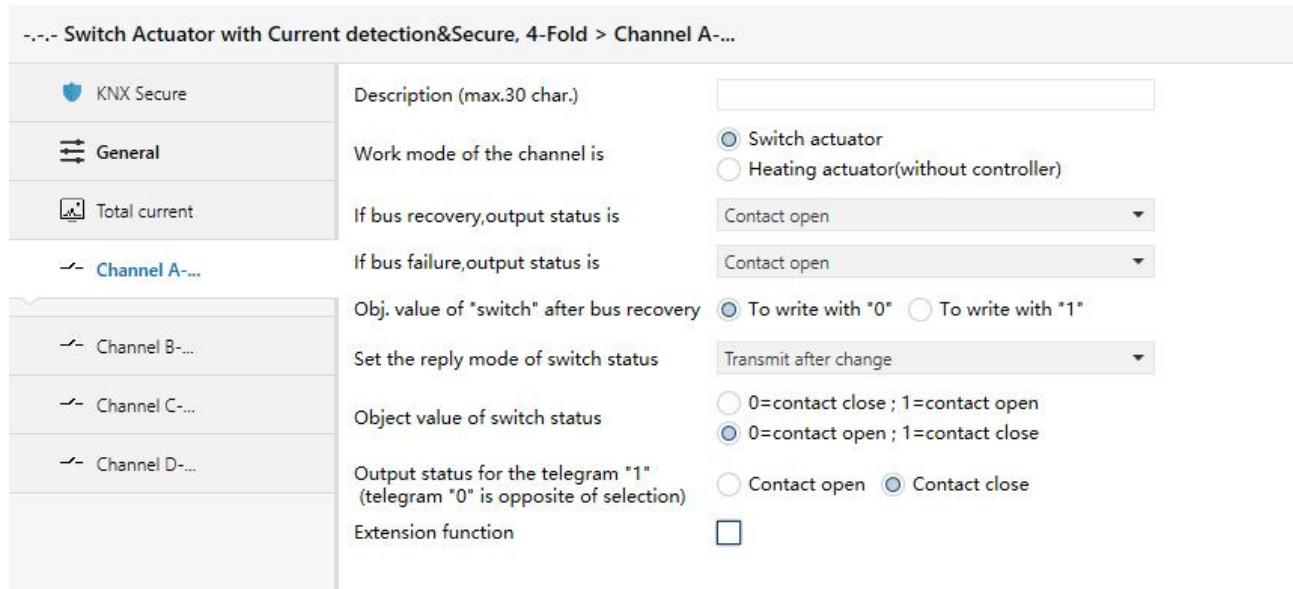

Fig. 4.4(1) Parameter window “Channel: X”
The parameter window “Channel X” is shown in Fig. 4.4(1) It works for all the outputs. “Channel X” or “X” mentioned below means any output of the switch actuator, which has the same parameter setup interface and communication objects.